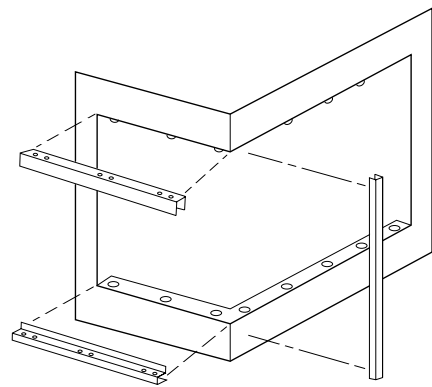

Figure 3
Step 4. Refer to Figures 3 and 4 and install the corner post to the ends of the end panel top and bottom channels. Secure it in place with two screws from the hardware kit.